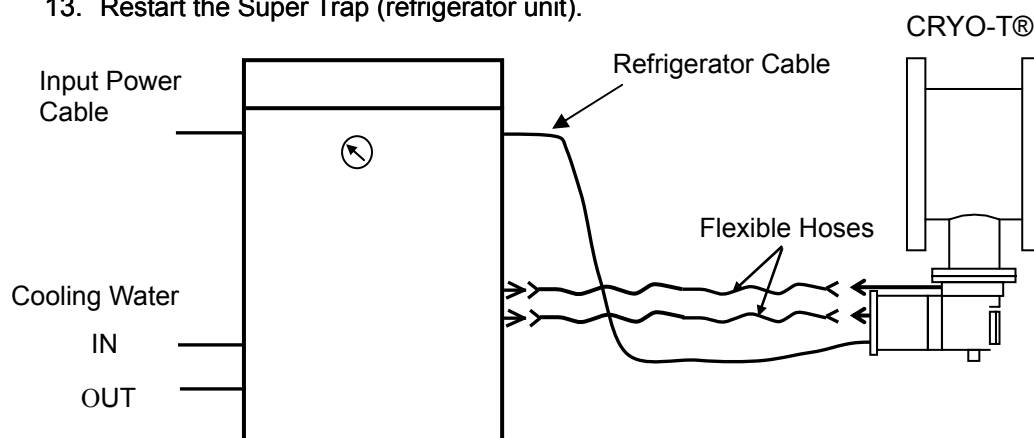

Figure 6-7 Connecting Flexible Hoses
11. Make sure that the flat rubber gasket of the self-sealing coupling is properly mounted. Then reconnect each flexible hoses to the compressor unit. (See Figure 6-7)